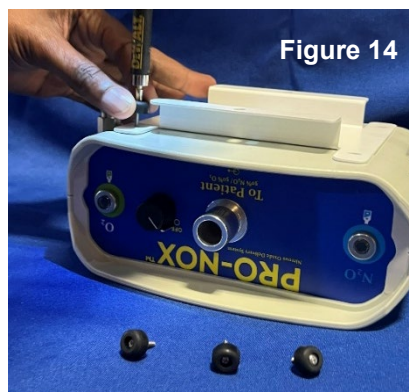

Figure 14
6. Use the phillips head screwdriver to reattach the black rubber feet onto the Mixer. See Figure 14.